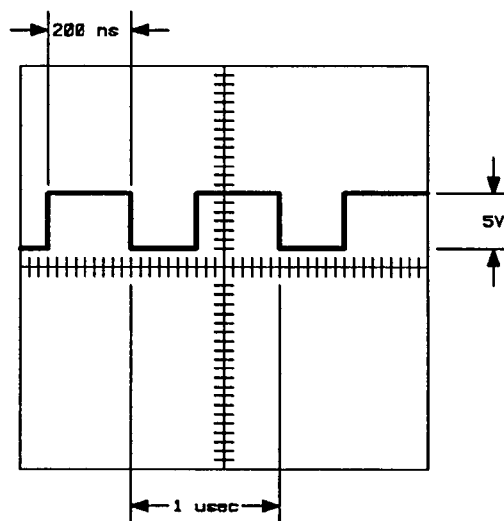

Figure 5-40. PAC Adjustment Waveform
- 4. Set Oscilloscope channel 2 input to DC coupled, 50Ω impedance, inverted. Adjust Pulse Generator amplitude to display waveform as shown in figure 5-40.